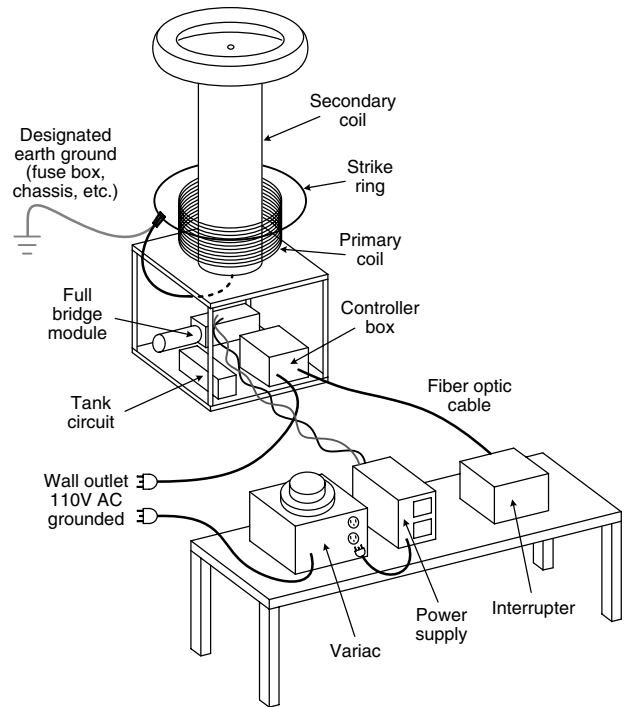

Figure 10-97 Component wiring overview.
Figure 10-97 shows the completed solid-state Tesla coil with all component interwiring.
- Set the base of unit (with full bridge, tank circuit, and control box) on a workbench or table, and the interrupter and power supply to a different table, then connect a fiber optic cable from interrupter to control box, and all other wiring connections, but do NOT plug into wall power yet (Fig. 10-97, 10-100).